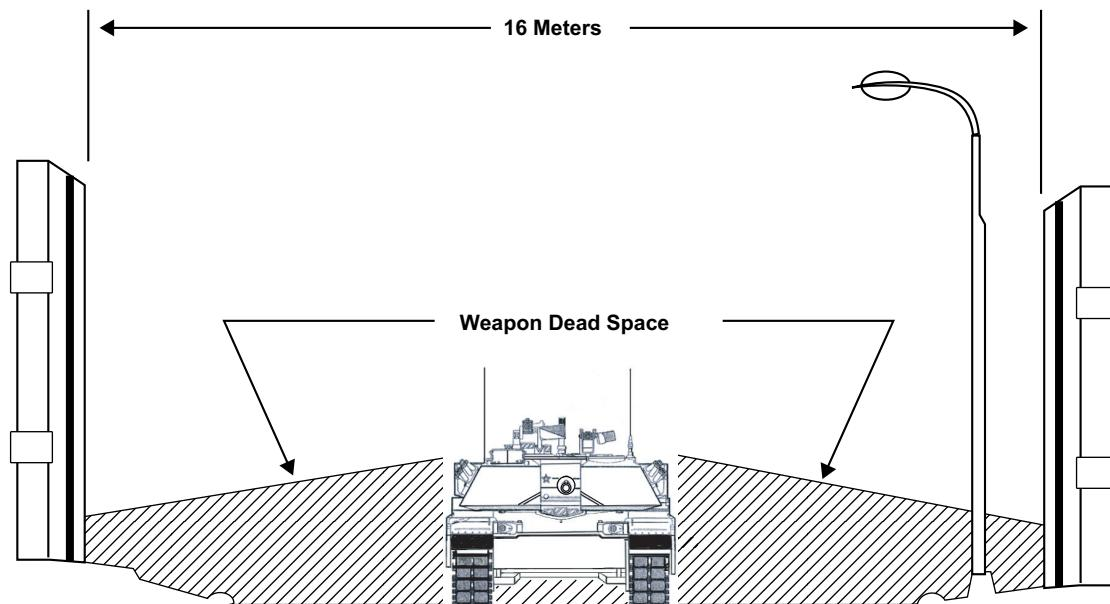
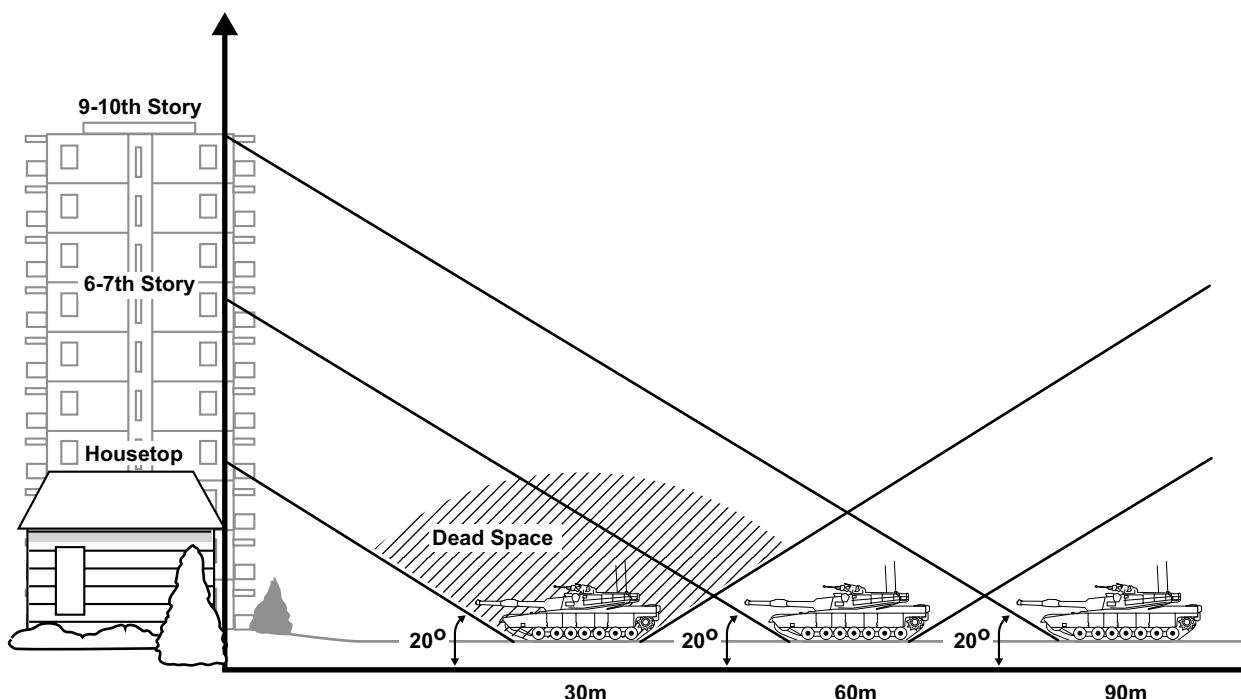

Figure 9-1. Tank Cannon Dead Space at Street Level.
Figure 9-2. Tank Cannon Dead Space Above Street Level.
- Tanks are sometimes at a disadvantage because their main guns cannot depress or elevate sufficiently to fire into basements and upper floors at close range (see fig. 9-1). The M1A1 can depress to -10 degrees or elevate to a height of +20 degrees.
The M1A1 tank has limited elevation in an urban environment; it can elevate its cannon 20 degrees and depress it 10 degrees. This lower depression limit creates a 35-foot dead space around a tank (see fig. 9-1). There is also a zone overhead in which the tank cannot fire (see fig. 9-2). This dead space offers ideal locations for short-range antitank weapons and allows hidden enemy